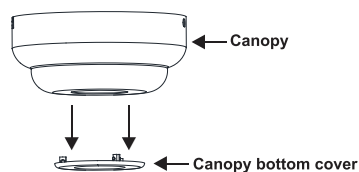

Fig. 7
1. Remove the decorative canopy bottom cover from the canopy by depressing the three studs. (Fig. 7)